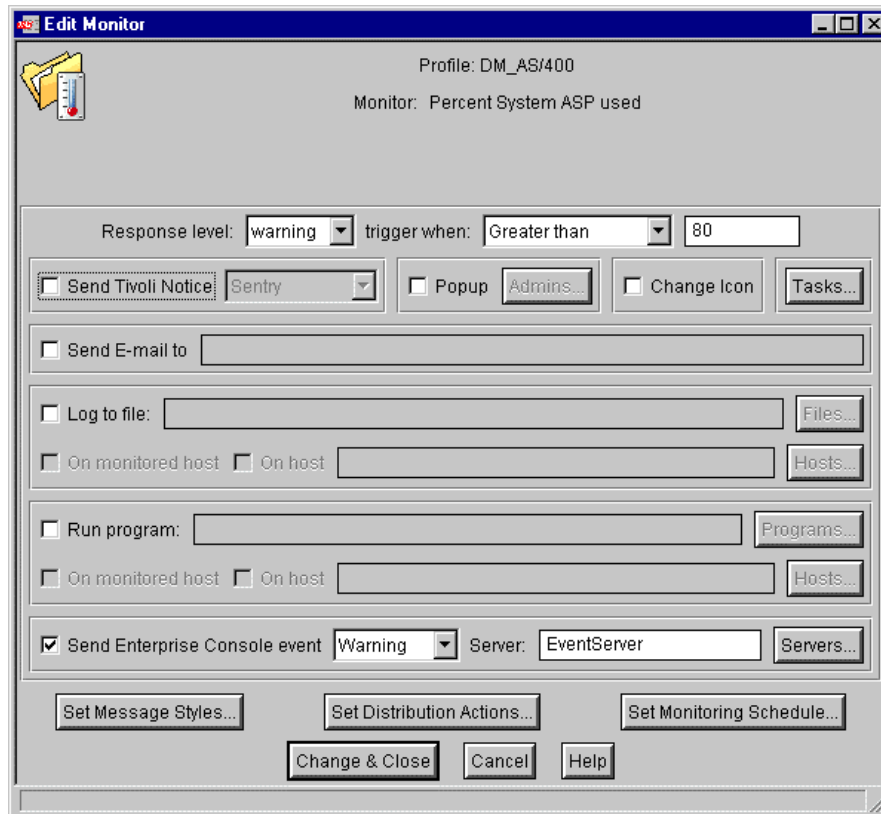

Figure 302. Configuring a Warning AS/400 Disk Monitor
4. Now, click the **Send Enterprise Console event** checkbox, and select **Warning** from the list. Enter the TEC Server name in the Server field (in this case, it is EventServer). The monitor should now look like that shown in Figure 302 on page 469.